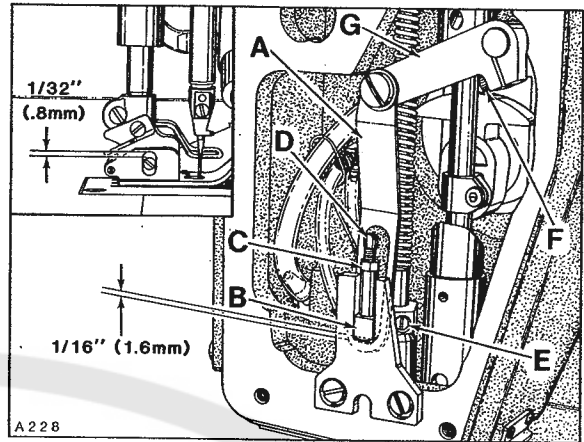
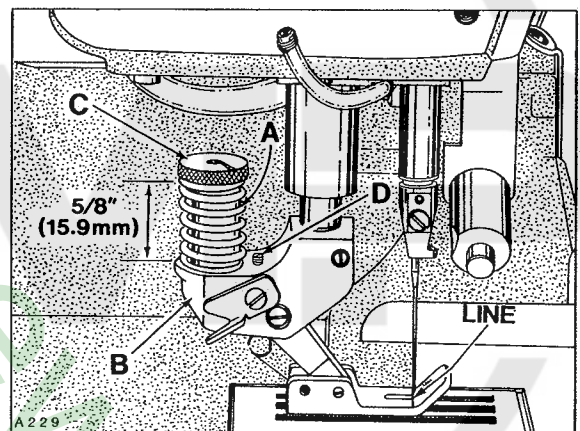

Fig. 22
Fig. 23
With needle bar at bottom of stroke and presser foot resting on throat plate, there should be 1/32 inch (.8mm) clearance between top of screw and top of slot in presser foot as viewed in Figure 22. There should be 1/16 inch (1.6mm) clearance between bottom of slot in lifter lever link (A) and bottom of presser bar guide (B) when foot lifter lever is released. If adjustment is required, loosen nut (C) and turn screw (D) down approximately 1/8 inch (3.2mm) below bottom surface of presser bar guide (B). Back off presser spring regulating screw and loosen screws (E) in presser bar guide (B) so that presser foot rests squarely on throat plate and screw (D) is touching the bottom of presser bar guide plate, then retighten screws (E).
With presser foot resting on throat plate, the distance from top of spring (A, Fig. 23) to top of yoke (B) should be 5/8 inch (15.9mm) and the line stamped across the presser foot bottom should line up with centerline of needle. As the presser foot is raised, its bottom should move VERY SLIGHTLY towards the rear... 1/64 inch (.4mm) maximum. If adjustment is required, proceed as follows:
Remove presser spring regulating screw, presser bar spring guide and presser bar spring. Loosen nut (C, Fig. 22) and turn screw (D) down approximately 1/8 inch (3.2mm) below bottom surface of presser bar guide (B). Loosen screws (E) in presser bar guide (B). Adjust spring regulator nut (C, Fig. 23) as required, so its lower surface is 5/8 inch (15.9mm) from top of yoke (B) as viewed in Figure 23. With presser foot resting on throat plate and feed dog down below throat plate, press down on spring regulator nut (C) until the marks in presser foot bottom align with centerline of needle and positioned to keep needle in center of needle slot. Tighten screws (E, Fig. 22) securing presser bar guide to presser bar, ensuring stop screw (D) in presser bar guide is resting on bottom of presser bar guide plate.
Replace presser bar spring, spring guide and spring regulating screw. Turn regulating screw down until the top of its threaded portion is level with head casting. Rotate handwheel to position feed below throat plate with presser foot resting on throat plate. Depress presser foot lifter lever to see if presser foot bottom moves SLIGHTLY towards the rear before presser foot begins to lift. Adjustment can be made by turning stop screw (D, Fig. 23) clockwise to shorten or counterclockwise to lengthen the distance of travel.
Loosen screw (F, Fig. 22) in lifter arm (G) and rotate arm slightly as required to obtain 1/16 inch (1.6mm) clearance between link (A) and guide (B); retighten screw (F) ensuring no left to right shake in lifter arm (G).
Purpose of the feeding presser foot is to make top and bottom plies of material feed the same amount without pulling on the bottom ply. Final adjustment may be required to match plies; turning nut (C, Fig. 23) to increase pressure on spring (A) will tend to feed the bottom ply more... decreasing pressure will tend to feed the top ply more.